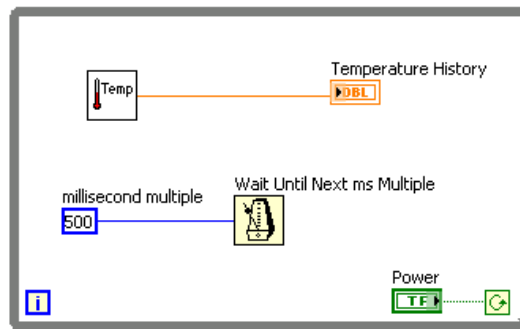

Figure 7.6
2. Enclose the two terminals in a While Loop, as shown in the block diagram (Figure 7.6).
4. Wire the objects as shown in Figure 7.6.